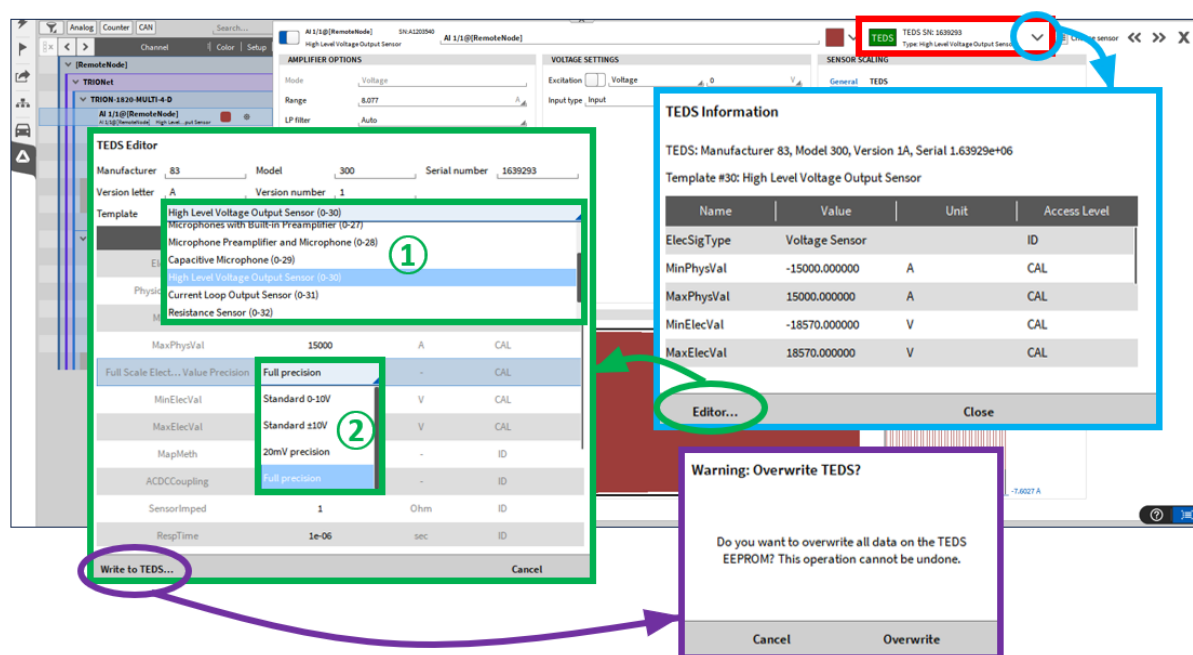

Fig. 7.221: Detailed Channel Settings with TEDS interface and TEDS editor
A detailed channel setting can be seen in Fig. 7.221. Depending on the type of sensor some settings might vary. The settings from the TEDS can be seen here and some settings can be adjusted manually, like the range. By clicking on the shown TEDS serial number, marked red in Fig. 7.221, all the TEDS information and settings can be seen (see blue frame in Fig. 7.221).
By clicking on "Editor" (see green circle in Fig. 7.221) the TEDS editor can be opened (see green frame) which offers the possibility to edit the stored data on the TEDS chip. It is possible to choose between a set of templates (see ① in Fig. 7.221) or to change the information stored on the TEDS chip manually (see ② in Fig. 7.221). When all changes are finished the information can be written to the TEDS chip, by clicking on "Write to TEDS" (see purple circle in Fig. 7.221). A window will pop up which asks for confirmation that the data should be written to the TEDS chip.
TEDS detection can also be disabled in the detailed settings by clicking on the green TEDS button (marked green in Fig. 7.221). This button has different colors depending on the state, which will be explained here: